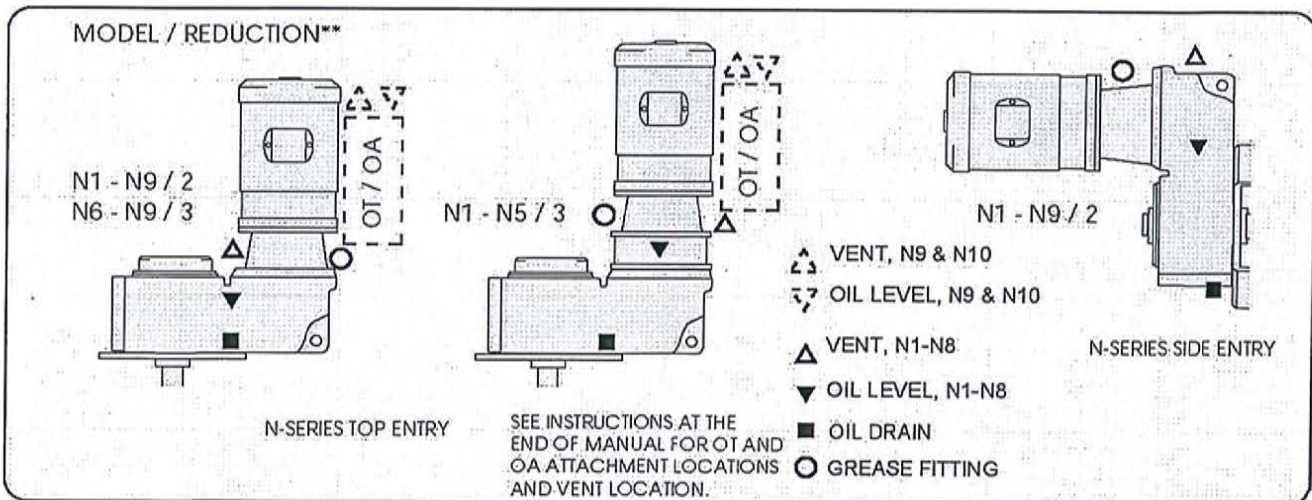

FIGURE C1.1
Check that the oil level is to the proper level before start-up (see Figure C1.1), and that none was lost during shipment/installation. Units with an oil tank(OT) or expansion chamber (OA) will require a